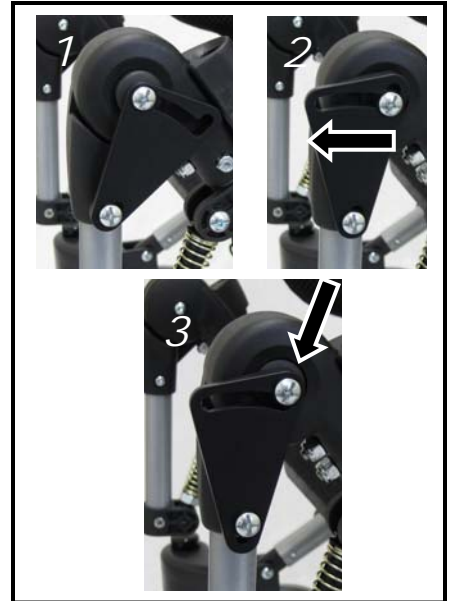

Figure 25: Turning on the Active Leg Rest
2. If leg motion is desired, slide the triangular plate (near the child's knees) toward the front of the chair to depress the button on the black pivot. Lock the triangular plate by pressing down on the top (**Fig. 25**).
<p>WARNING: [Active Leg Rest] Make sure the child's fingers are away from the triangular plate at the knee (Fig. 25) before moving it between positions because there is a risk that the child's fingers may be pinched.</p>